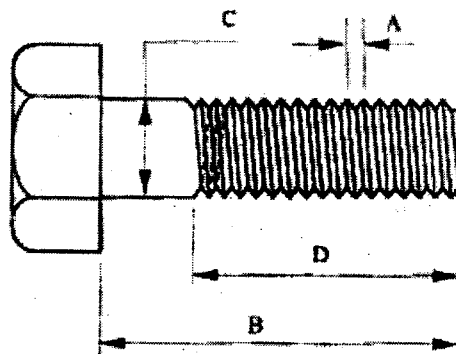

Figure 1
- (b) Figure 1 shows a hexagonal bolt. Name the parts labelled A, B, C, and D shown in figure 1. (2 marks)